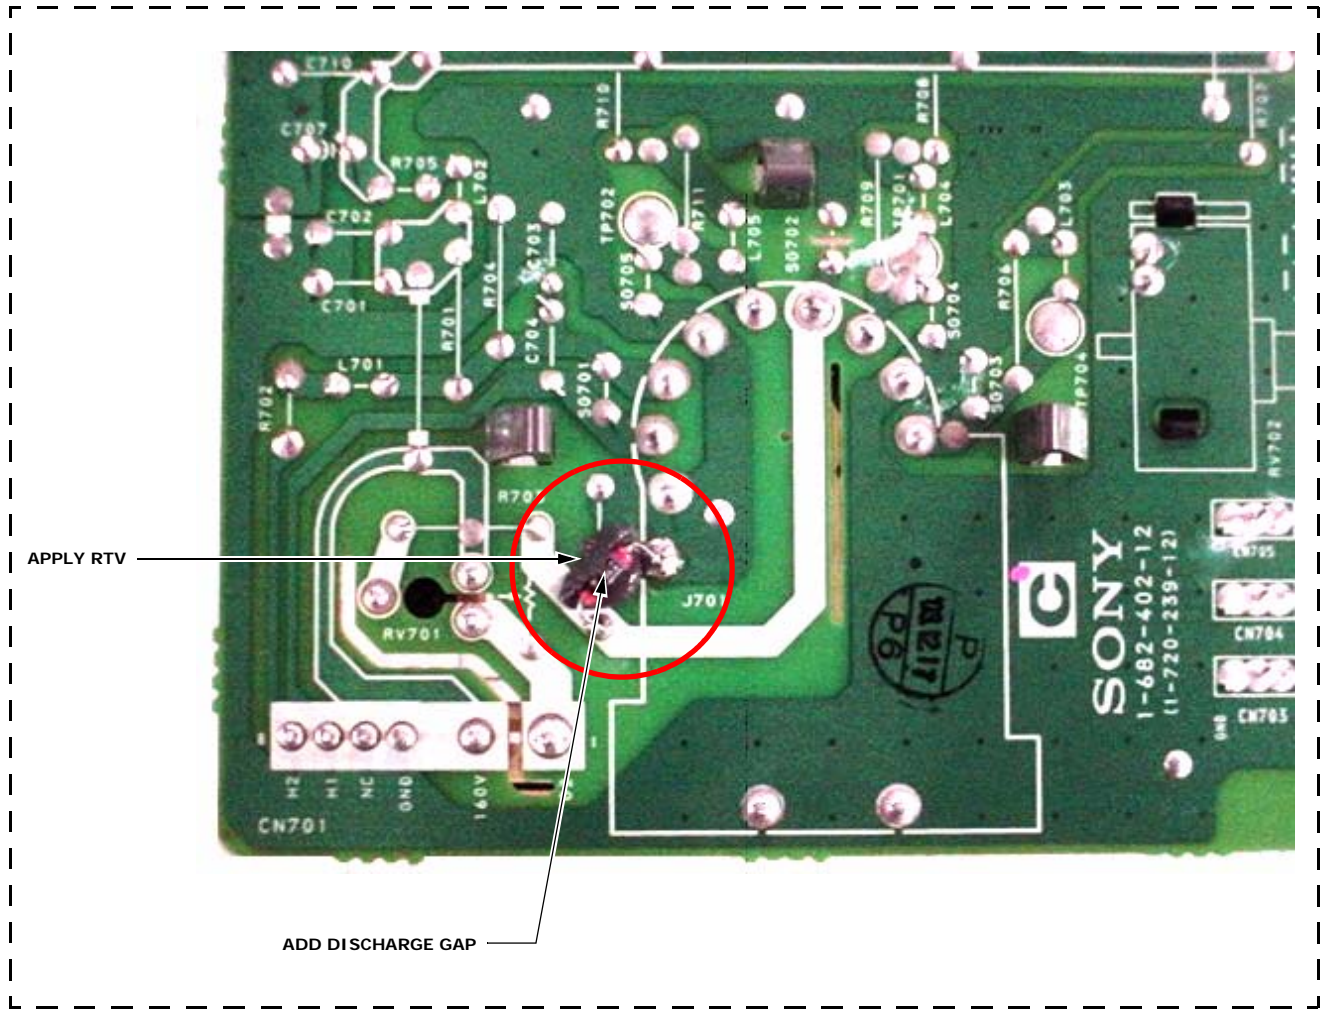

Figure 1
1. Solder a discharge gap between G2 and GND as shown in Figure 1.